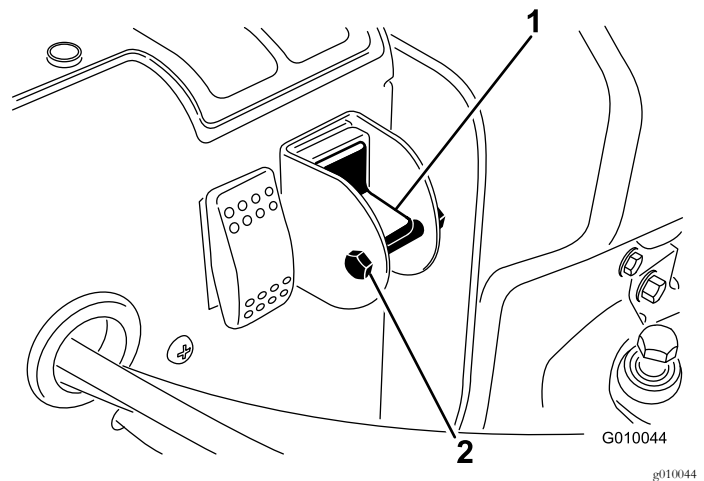

Figure 29
4. Remove locking bolt and nut from selector switch (Figure 29).